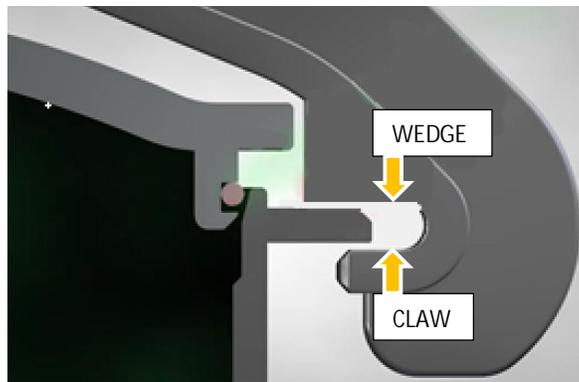

Figure 3 - Strongback in Neutral Position
- i. Note that the strongback is locked in relation to the cover by means of a spring-loaded T-handle locking pin. This is called the open-lock-position. With one hand pushing the cover assembly down on the strongback's main handle, pull the T-handle up, and turn the strongback clockwise. Release the T-handle and continue to turn until the spring-loaded pin of the T-handle releases and fully engages the corresponding hole in the nozzle flange. This is called the closed-lock-position. If the strongback does not freely move from one position to another it is due to contact between the surfaces of the strongback arms and the nozzle flange. To eliminate this contact, turn the ram so that the nozzle flange is equally positioned between the strongback "claws" and "wedges" (See figure 3).
- iii. Lift the T-handle and rotate the strongback counter-clockwise. Release the T-handle and continue to turn until the spring-loaded pin of the T-handle releases and fully engages the corresponding hole in the nozzle flange. The strongback is now in the open-lock-position. If the strongback does not freely move from one position to another it is due to contact between the surfaces of the strongback arms and the nozzle flange. To eliminate this contact, turn the ram so that the nozzle flange is equally positioned between the strongback claws and wedges (See figure 3). Note: The claws bear up against the bottom side of the nozzle flange when closing the cover assembly. The wedges bear down against the upper side of the nozzle flange when opening the cover assembly.